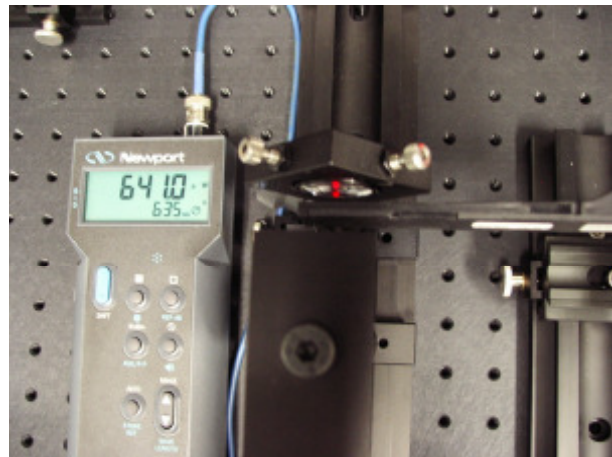

Figure 8: Total optical output power with  $1 \text{ cm}^2$  sensor (Newport)
5. Put Newport sensor into laser beam and read the power:  $P_{opt}(\text{Newport}) = 0.641 \text{ mW}$  (Fig. 8)